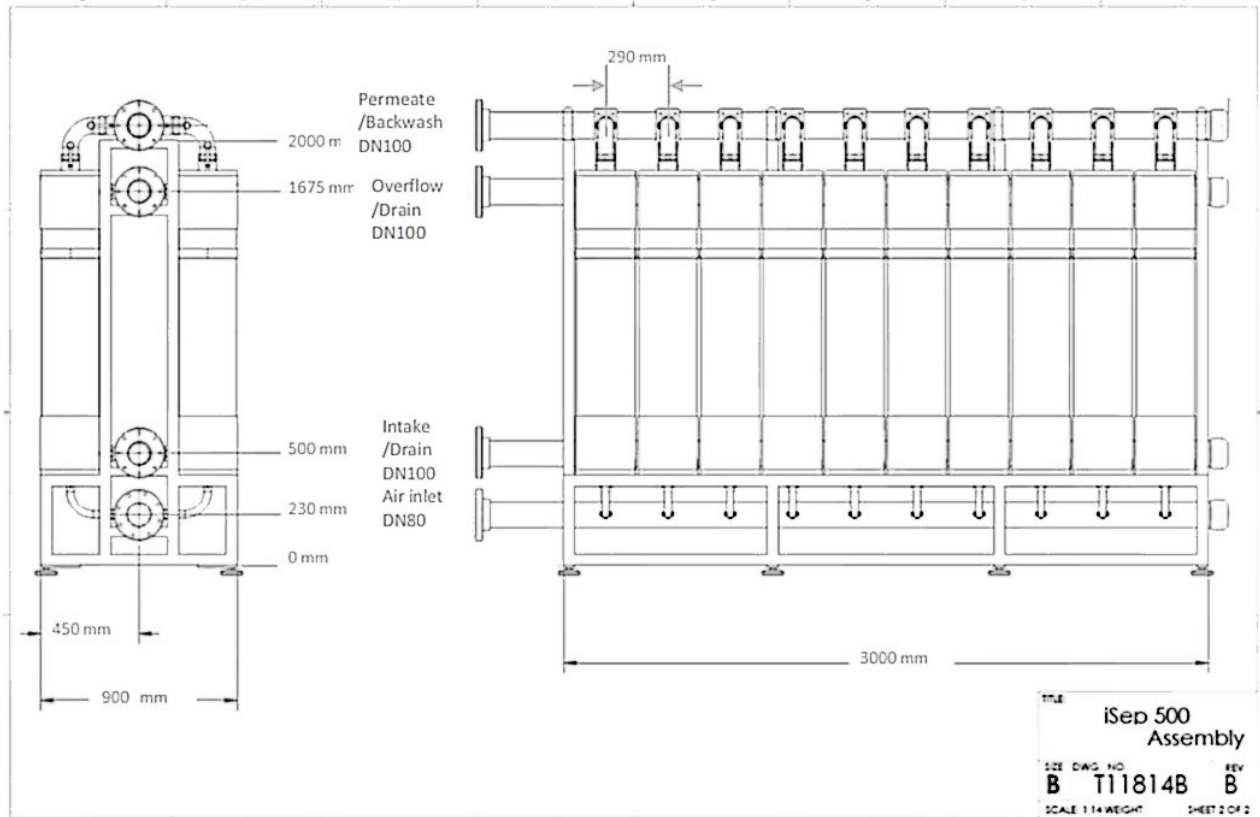

Figure 3. iSep UF module skid
4. Placing the module assembly on the bottom frame, install according to Figure 3.